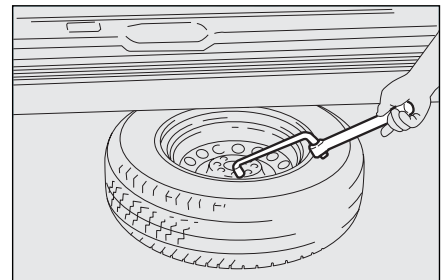

fig. 6
- ☐ use the wrench **C** to take the wheel out of the vehicle **fig. 6**;